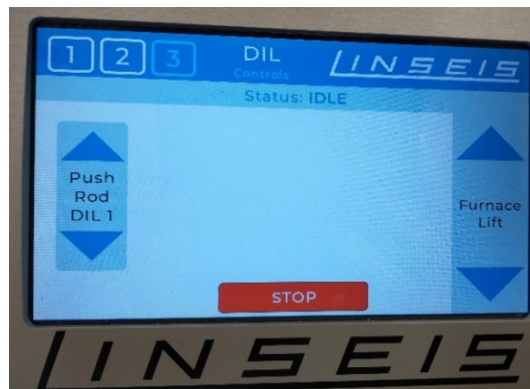

Figure 19. Dilatometers touch screen page 3.
13. Raise the furnace on the dilatometer's touch screen page 3, image of the touch screen is in Figure 19. Press the up arrow on the right above the "Furnace Lift". Lower the push rod using the same screen. Press the down arrow on the left below the "Push Rod DIL1".
6. Raise the furnace on the dilatometer's touch screen page 3. Press the up arrow above the "furnace lift". Lower the push rod using the same screen. Press the down arrow below the "push rod DIL1" (refer to figure 19).